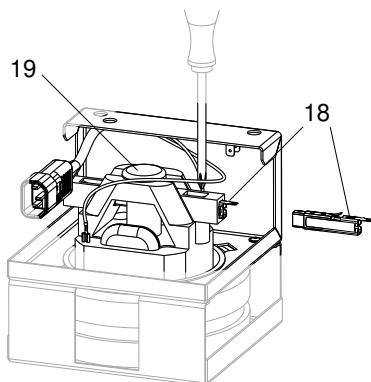

Fig. 25
- The motor package has to be removed in order to replace the carbon brushes! Using a blunt object, press the metal tongue downwards (fig. 25) and pull the carbon brush holder out. Now push in the carbon brush (see 3.5 Spare parts) until it engages and mount everything in the reverse order.